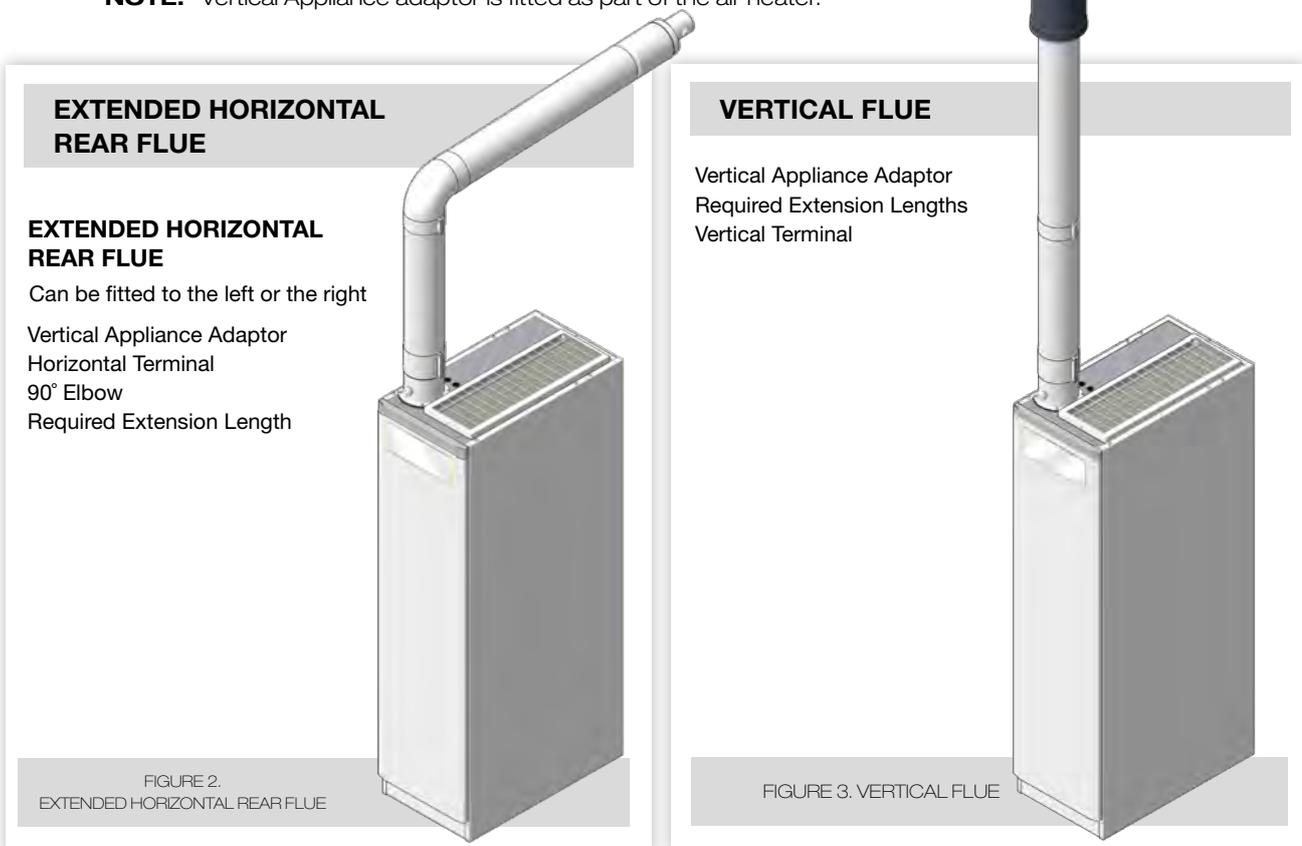

FIGURE 5. TERMINAL POSITIONS
9.7.2 Both the extended horizontal and vertical terminals must be positioned on the outside of the building and the free passage of air must be available at all times. It is not recommended to position the terminal close to projections especially under a balcony or near to a drainpipe. See Figure 5.